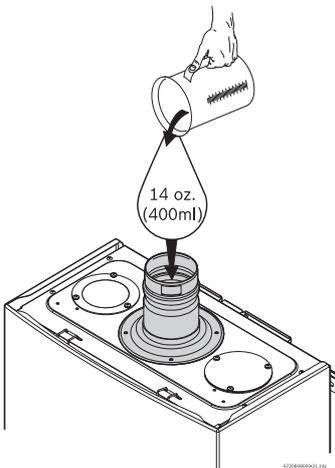

Fig. 30 Filling the condensate trap at start up
Although recirculation directly through the tankless water heater is allowed, temperature stability is improved by recirculating through a mini-tank as shown in Fig. 30. By using the design in Fig. 30, there is no recirculation of hot water through the tankless water heater and therefore, does not affect the heat exchanger warranty of 15 years. Direct recirculation through the tankless water heater is permissible, however, the heat exchanger warranty is reduced to 3 years; contact Bosch Thermotechnology for further installation requirements. The following drawing is provided to outline one possible recirculation design using the water heater in conjunction with an Ariston mini tank water heater. This schematic is for illustration only and must not be used for actual Installation without appropriate engineering and technical advice from a properly licensed professional in the locality where the installation is made.
- ▶ Fill the condensate trap by pouring approx. 14 oz. (400ml) of water into the exhaust accessory on the top of the appliance, see Fig. 30.